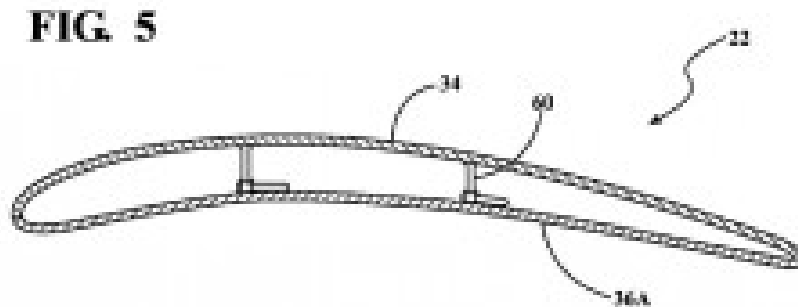
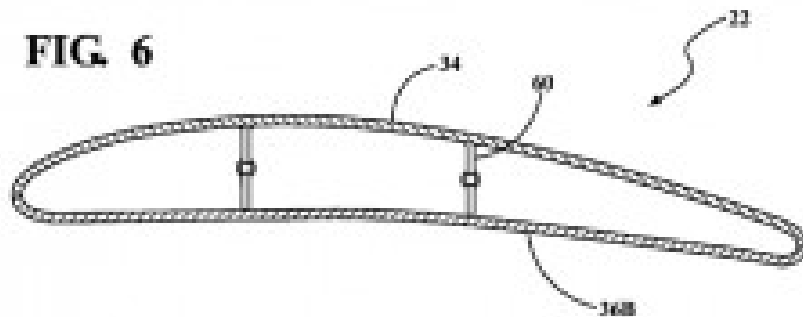

FIG. 5
FIG. 6
***“...Intriguingly, Toyota’s patent lacks much clarity surrounding the width of the aero-car’s stackable wing sections - and herein lies the patent’s true focus. Assuming the sections are relatively narrow, perhaps as narrow as the car itself (remember, roadable mode visibility is a priority), there is thus a need for multiple airfoils piled atop one another. If you can’t get the necessary wing area (and by the same token, the necessary lift) by stretching out, stretch up! Besides deploying from its stowed ‘roadable mode,’ the wings can assume various positions for takeoff, landing, and cruising. While the highest wing features a fixed section, the lower wings incorporate internal actuators to vary their section (see Fig. 5 and Fig. 6, at left); this not only alters the wing’s production of lift, but also enables the wing to shrink in thickness for stowage - a critical capability when multiple wings must be stacked...”***